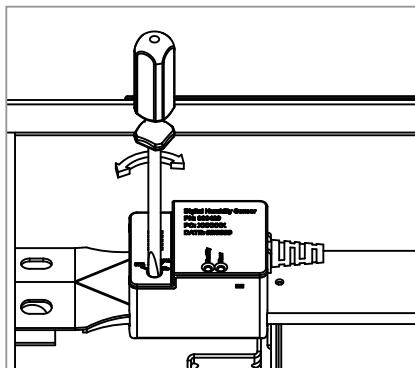

Fig. 2
4. Set relative humidity based on desired performance. The lower the setting, the more sensitive the fan will be to changes in humidity levels as shown in Fig. 2.